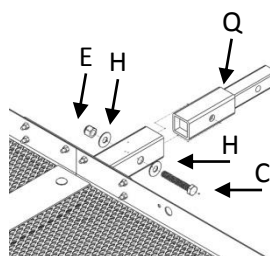

Fig 4
- For 1-1/4" hitches, insert adapter into shank so that the through holes are aligned. Secure with 1/2"x3" hex bolt, (2) 1/2" flat washer and 1/2" hex nut. Tighten to 24 ft-lb. (Fig 4)